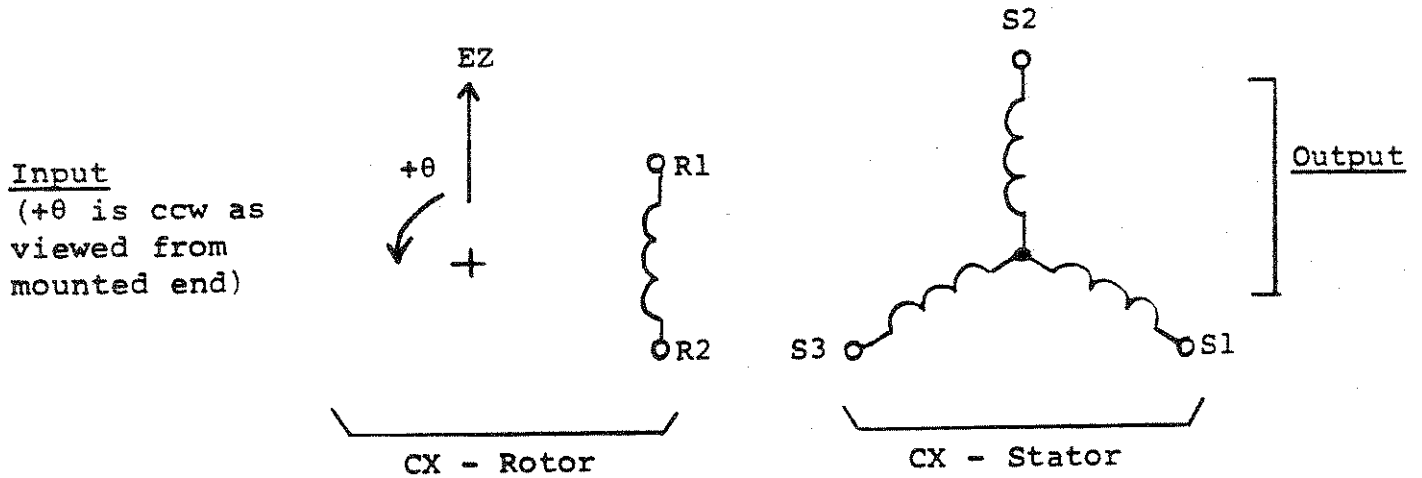
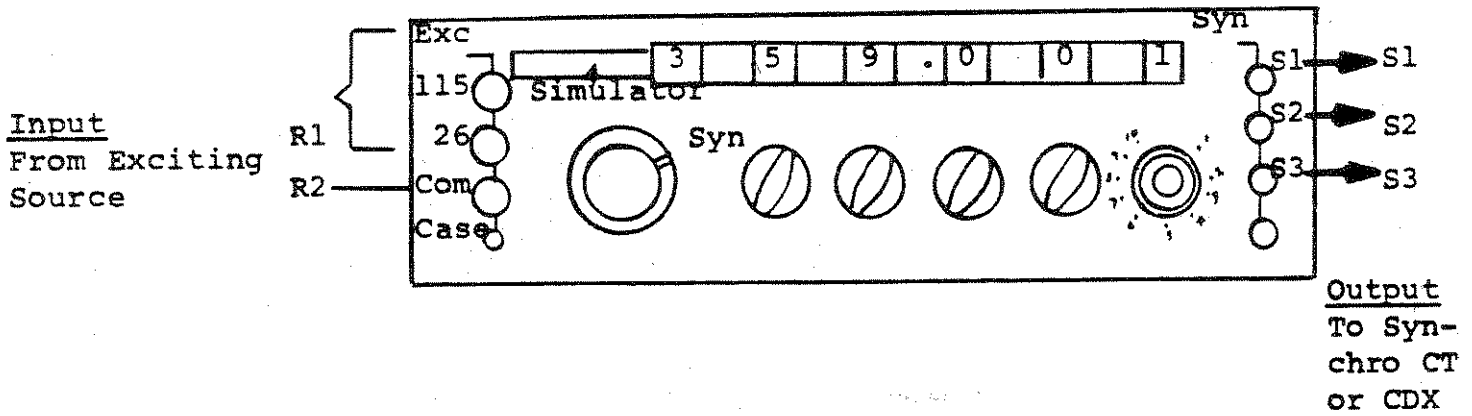

Figure 4-1. Synchro Transmitter (at EZ) - CX
Figure 4-2. Model 530 - Synchro Mode
The schematic representation for a Synchro Transmitter (CX) is shown in figure 4-1.
The input and output terminals of the Model 530 in the synchro mode correspond to figure 4-1 and are indicated in figure 4-2.